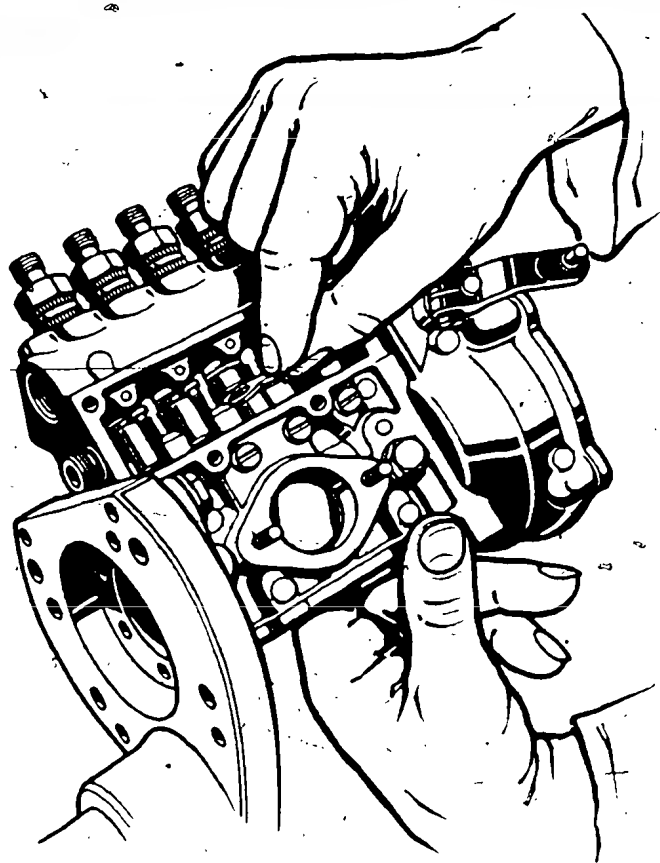

Fig. 7: Introducing control sleeve
4. Tilt pump horizontally. Insert control sleeve (13) from the front into the tappet guide (Fig. 7) and push upwards over the shank of the pump barrel.